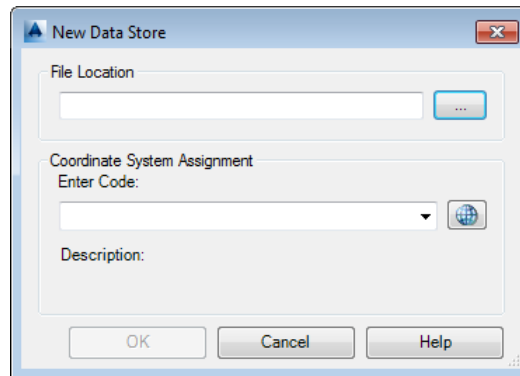

Figure 2-32 The New Data Store dialog box
3. This pop-up menu, choose the **New Survey Data Store** option; the **New Data Store** dialog box is displayed, as shown in Figure 2-32.